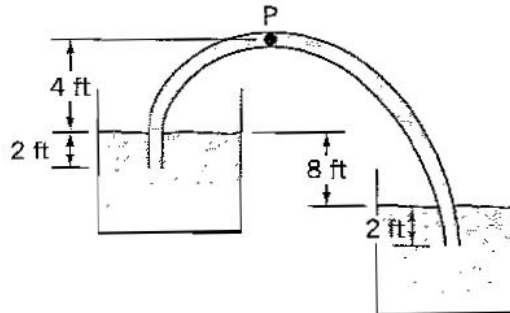

Figure P8.27:
8.27 Water at 60°F is siphoned between two tanks as shown in Figure P8.27. The connecting tube is 2.0 in. diameter smooth plastic hose 20 ft long. Find the volume flow rate and the pressure at point P, which is 8 ft from the entrance to the tube. Ignore minor losses. (To begin, assume a friction factor, then iterate.)